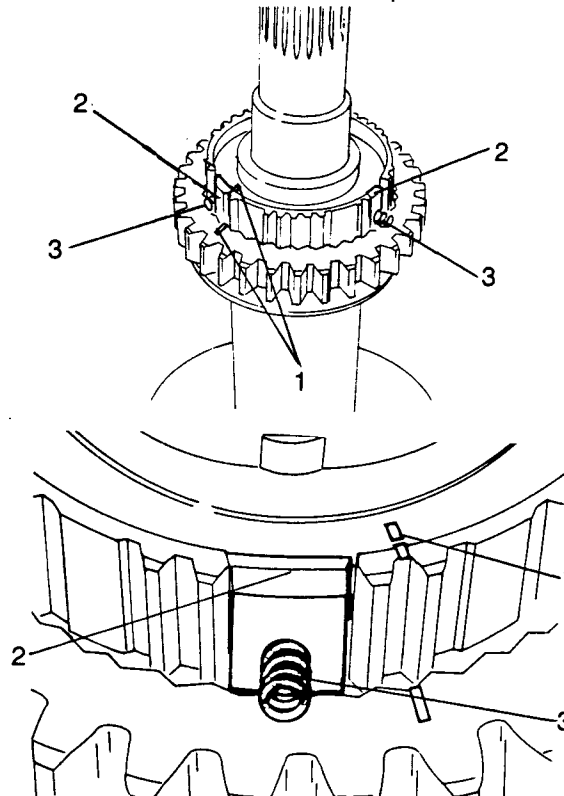

Fig H1.149
- (2) Refer to Fig H1.149. Fit the outer body to the inner so that the groove for the selector fork remains towards the rear end of the shaft and the matching marks (1) made in para 3, step (1) coincide.
- (3) Fit the sliding blocks (2) in place with the rounded surface (2) facing outwards.
- (4) Fit the three springs (3) into the holes of the sliding blocks, in such a way that they are housed in the hollows of the inner body.